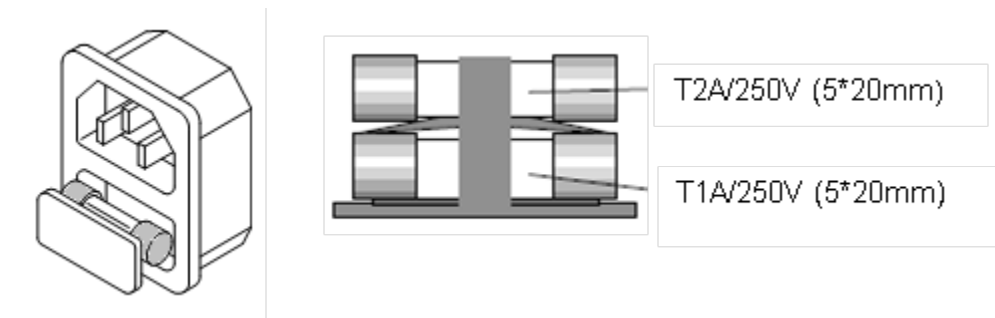

Figure 5-2: Fuse Holder Location
2. Refer the drawing on the rear panel of 5V Series load in Figure 5-2, set the switches to the proper voltage as indicated below.